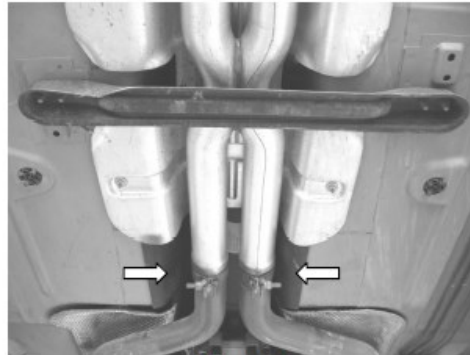

Figure 3
6. Loosen the clamps shown in figure 3 located just ahead of the h-pipe.